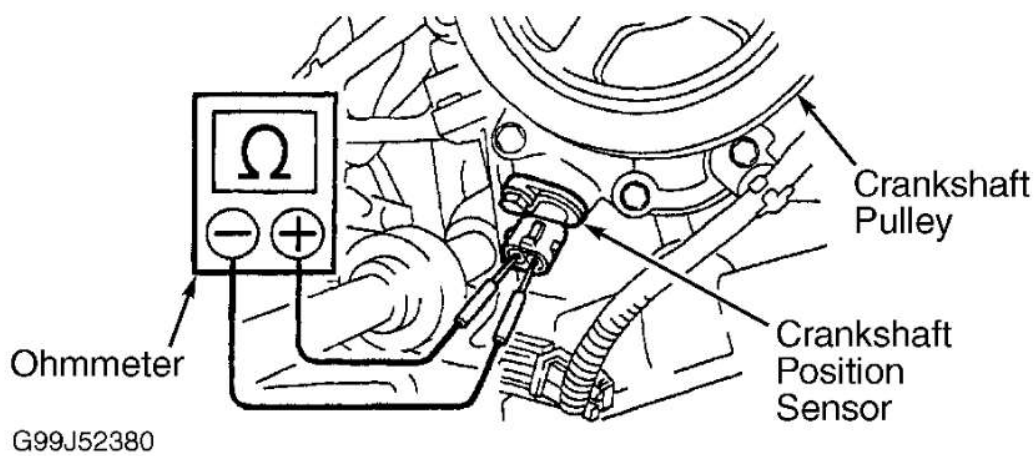

Fig. 48: Locating & Checking Crankshaft Position Sensor (ECHO)
1. Remove passenger's side engine cover for access to crankshaft pulley. Disconnect crankshaft position sensor electrical connector at crankshaft position sensor. Crankshaft position sensor is located on front of engine, near crankshaft pulley. See **Fig. 48** .